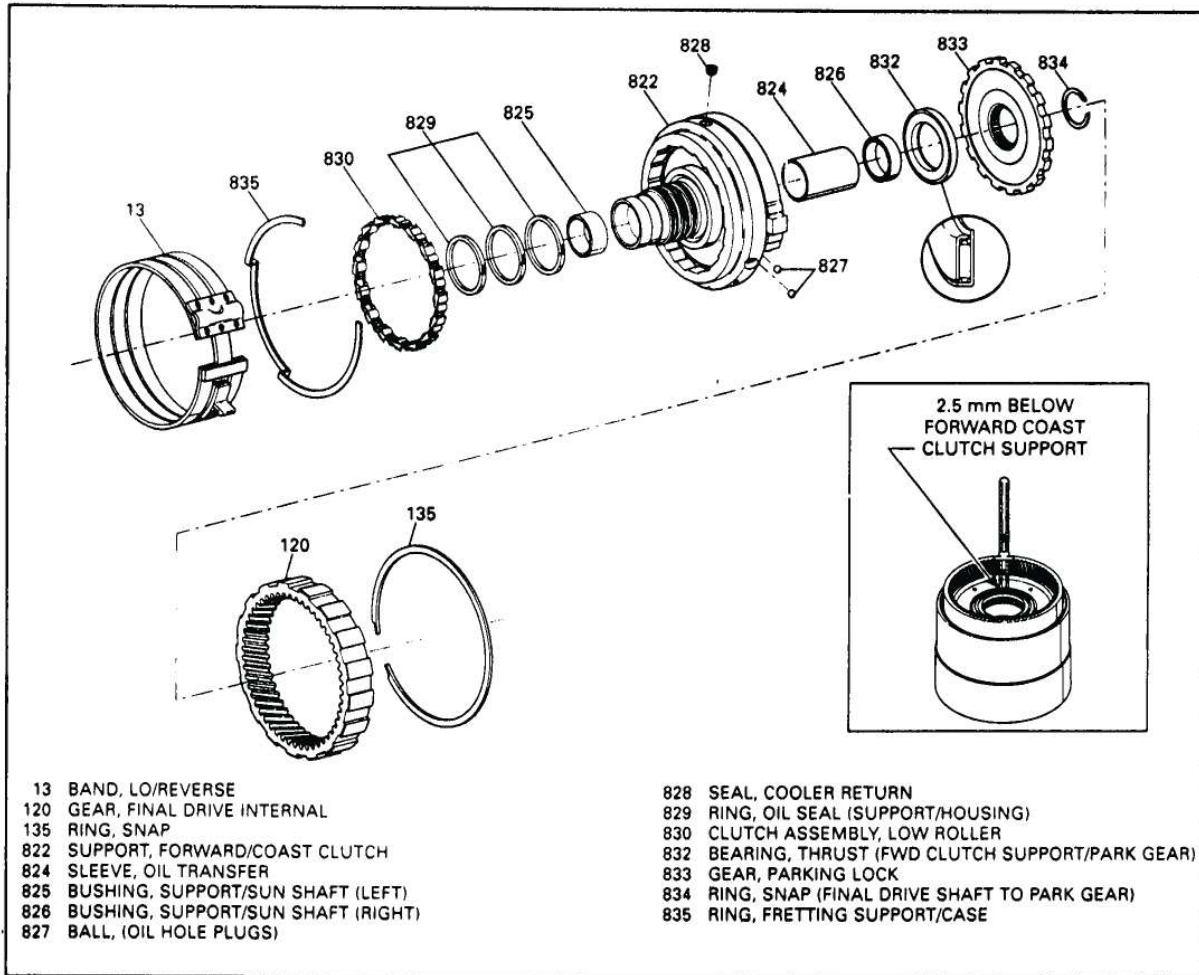

Figure 73
1. Remove and discard the 3 oil seal rings on the support assembly (See Figure 73).
2. Remove and discard cooler return seal (828) from support assembly as shown in Figure 73.
3. Inspect all components shown in Figure 73, for any wear and/or damage.
4. Install a new cooler return seal into the support assembly using appropriate size socket (See Figure 73).
5. Install 3 new oil seal rings onto the support and lubricate with small amount of TransJel (See Figure 73).
NOTE: When splines on both hubs are both properly engaged, the bushing on the input ring gear hub will drop 2-3mm below the forward/coast clutch support hub, and a dull metal thud can be heard. (See Inset in Figure 73).